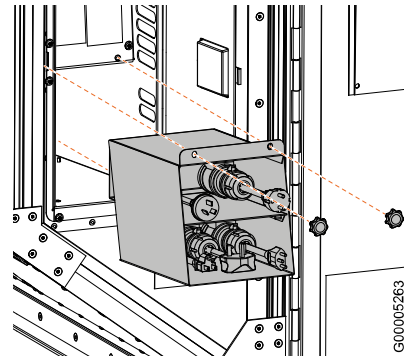

Fig. 30
10. Return the adapter case including all adapters, and mount the thumbscrews (**Fig. 30**).